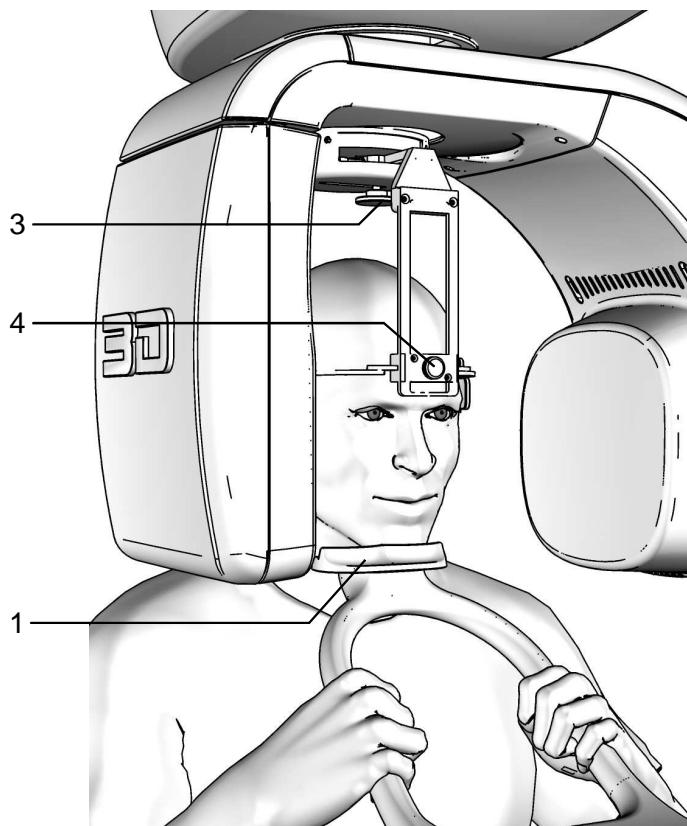

Figure 27 - 3D TMJ Right positioning
Check that the temple clamp device is in the 3D TMJ Right position (patient left side - Figure 14); if necessary move it into the correct position by means of the knob (3 - Figure 27).
4. Place the patient in the temple clamp (Figure 27) by placing the chin on the surface of the relevant support; the hands should rest on the front handgrips; the patient must rest his chin against the reference on the chin support, using the left side (patient entrance view) of the support itself.
6. Place the temple clamp in contact with the patient's head by means of the appropriate knob (4 - Figure 27). In order to help the patient maintain the correct posture, use the head strip on the temple clamp passing it behind the nape of the patient's neck; check that, during this phase, the patient has not changed position.